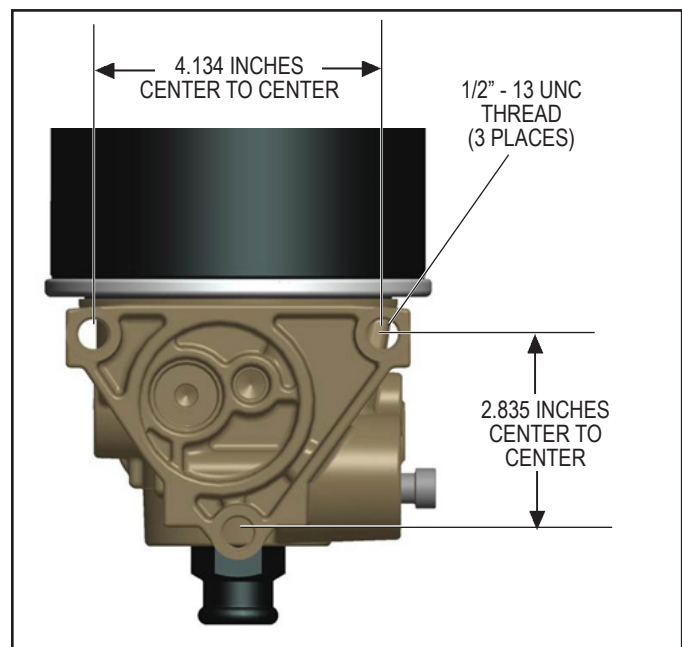

FIGURE 7 - BENDIX® AD-RP™ SYSTEM PURGE AIR DRYER MOUNTING BRACKET DIMENSIONS
1. Install the AD-RP air dryer by referring to Figure 7 and drilling the triangular mounting hole pattern in a mounting plate and then mounting the plate on the vehicle, or by drilling the mounting hole pattern in the area of the vehicle chosen for mounting. **Note:** Check the vehicle manual before drilling a frame member.